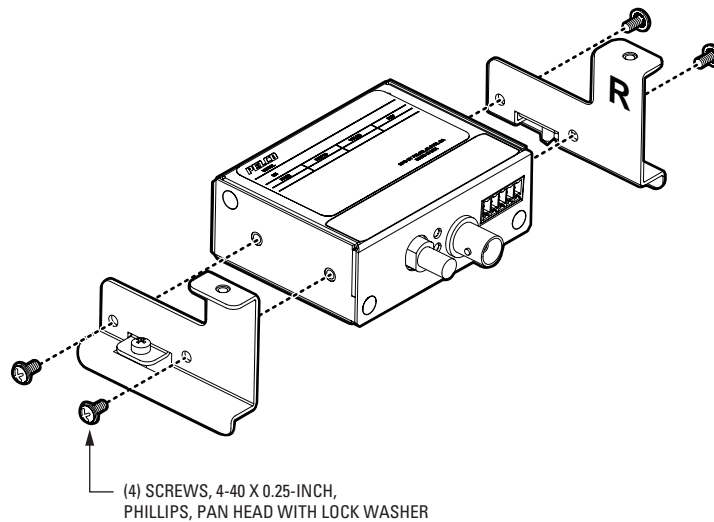

Figure 8. Attaching EH3500 Brackets (Pelco FKIT-EH3500) to FTV10M Transmitter
2. Using the left- and right-mounting EH3500 brackets and the four 4-40 x 0.25-inch Phillips pan head screws and lock washers supplied in the EH3500 Series accessory kit (Pelco FKIT-EH3500), attach the brackets to the transmitter (refer to Figure 8). Note that the left- and right-mounting brackets are marked L and R, respectively, to indicate the side of the transmitter to which each bracket should be mounted.